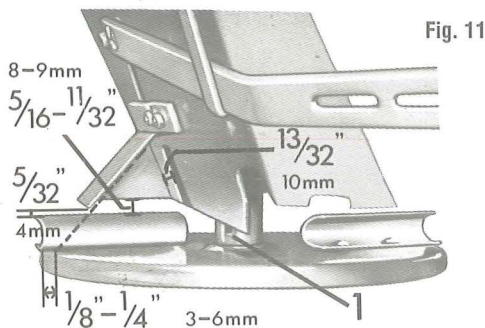

Fig. 11
- Remove expansion pin out of the stirrer heads (between hopper and spreading disc Fig. 11/1).
- Check measurements for blades as illustrated in Fig. 11.